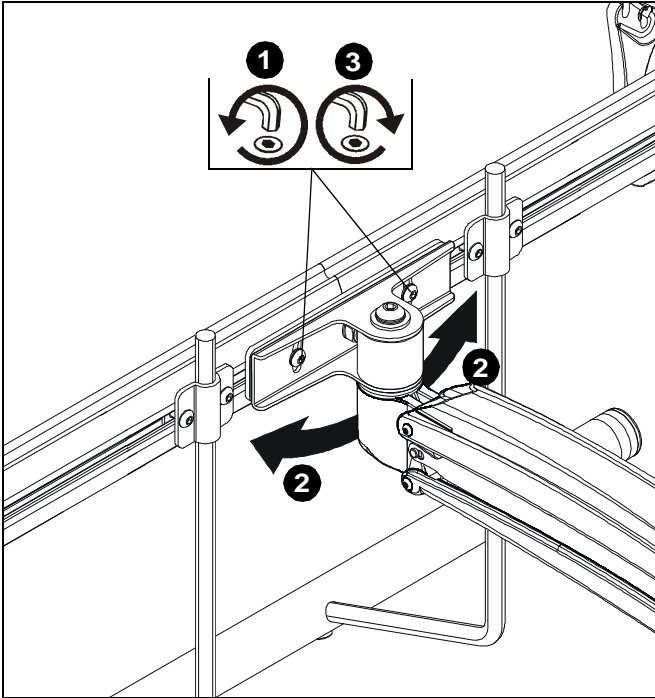

Figure 17
1. Loosen roll adjustment screws on back of array bracket. (See Figure 17)
2. Adjust roll of array bar as desired. (See Figure 17)
3. Tighten roll adjustment screws on back of array bracket. (See Figure 17)